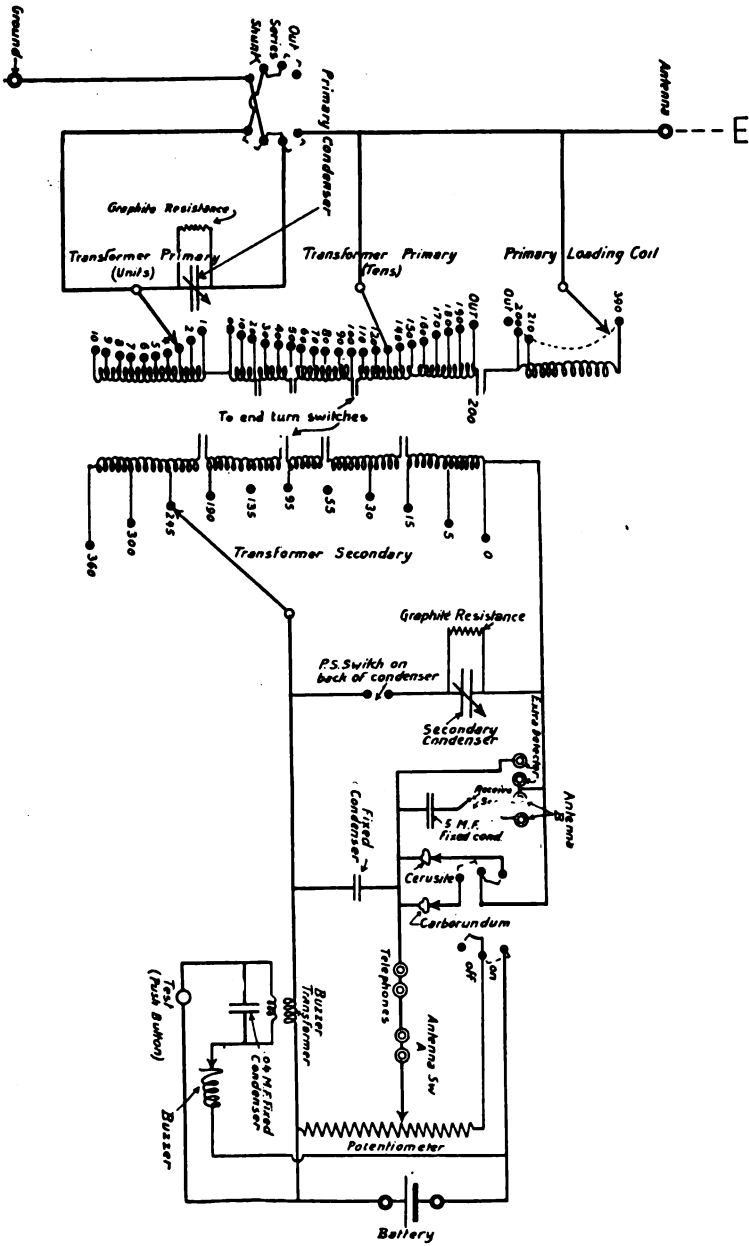

Fig. 20
The receiver, the wiring diagram of which is given in Fig. 20, is of the two-circuit, inductively coupled type. It contains the following parts: Primary of the inductive coupler (A), secondary of the inductive coupler (B), antenna tuning inductance in the primary circuit (C), primary variable air condenser (D), secondary variable air condenser (E), potentiometer (F), carborundum detector (G), cerusite detector (H), test buzzer (I), coupling controller (J), detector protective condenser (K), detector stop-